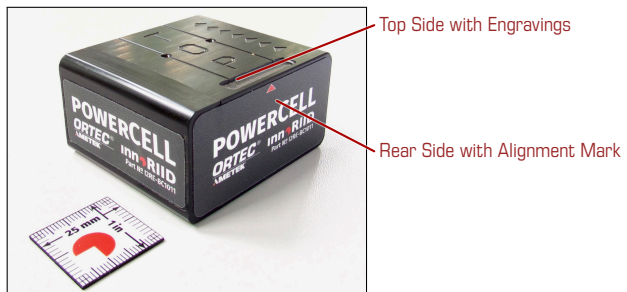

Figure 125: The standard black rechargeable POWERCELL of the RAD EAGLE.
The black POWERCELL (Fig. 125, p. 107) is a sealed box containing rechargeable Nickel-metal hydride cells (NiMH) with a very low self discharge (LSD) over time. They are recharged within the instrument whenever it is connected to external power.
- "TOP" and arrows are engraved in the top side of the pack (Fig. 125, p. 107).